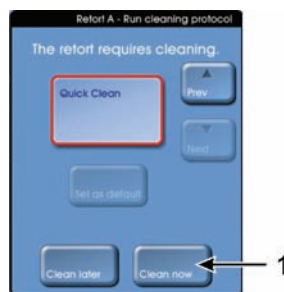

Figure 61: Run cleaning protocol dialog box with Clean now button (1)
3. The "Run cleaning protocol" dialog box will now appear (see Figure 61).